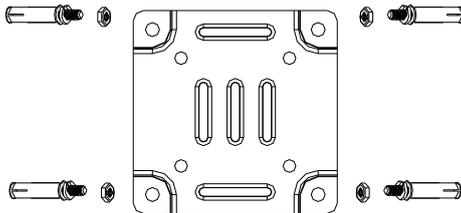

Figure 2-22 Attach the Installation Plate
3. Fix the installation plate and insert M10 $\times$ 80 expansion screws into the screw holes, as shown in Figure 2-22.